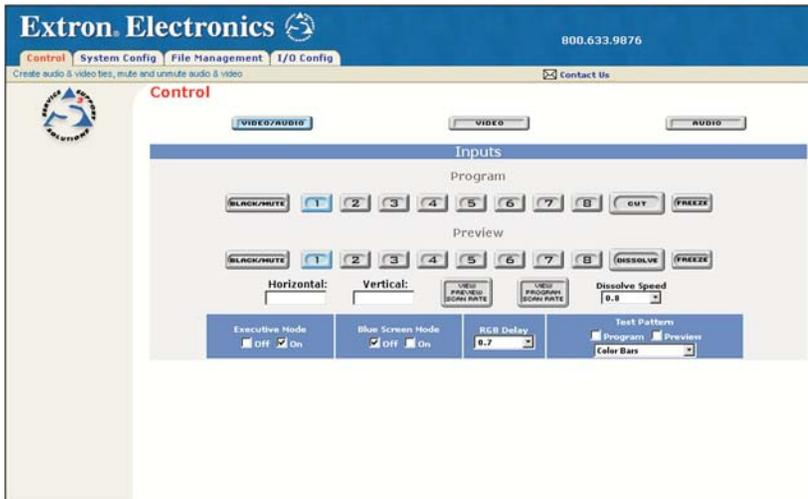

Figure 4-7— ISS Control screen
6. Once the IP address of the switcher has been set, click the Control button. The switcher Control screen (figure 4-7) opens.